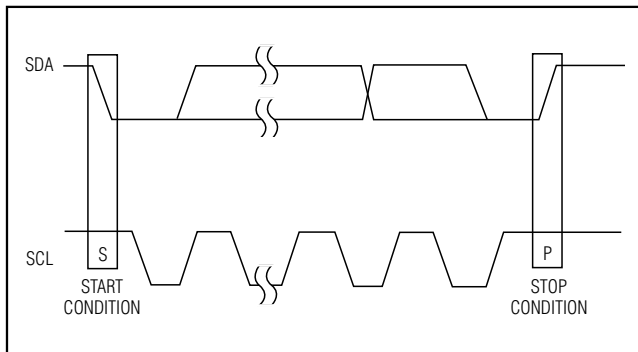

Figure 6. Start and Stop Conditions
Each transmission consists of a START condition sent by a master, followed by the MAX6618 7-bit slave address, plus an R/\overline{W} bit, one or more data bytes, and finally a STOP condition (Figure 6). To write to a MAX6618 register, a write transmission consists of a START condition, followed by the MAX6618 7-bit slave address plus $R/\overline{W} = 0$, a register address byte, one data byte, and finally a STOP condition. To read from a MAX6618 register, a combined write and read transmissions are required. The first write transmission consists of a START condition, followed by the MAX6618 7-bit slave address plus $R/\overline{W} = 0$, a register address byte, and finally a STOP condition that sets the register to be read. The second read transmission consists of a START condition, followed by the MAX6618 7-bit slave address plus $R/\overline{W} = 1$, one or more data bytes, and
Both SCL and SDA remain high when the interface is not busy. A master signals the beginning of a transmission with a START (S) condition by transitioning SDA from high to low while SCL is high. When the master has finished communicating with the slave, it issues a STOP (P) condition by transitioning SDA from low to high while SCL is high. The bus is then free for another transmission (Figure 6).